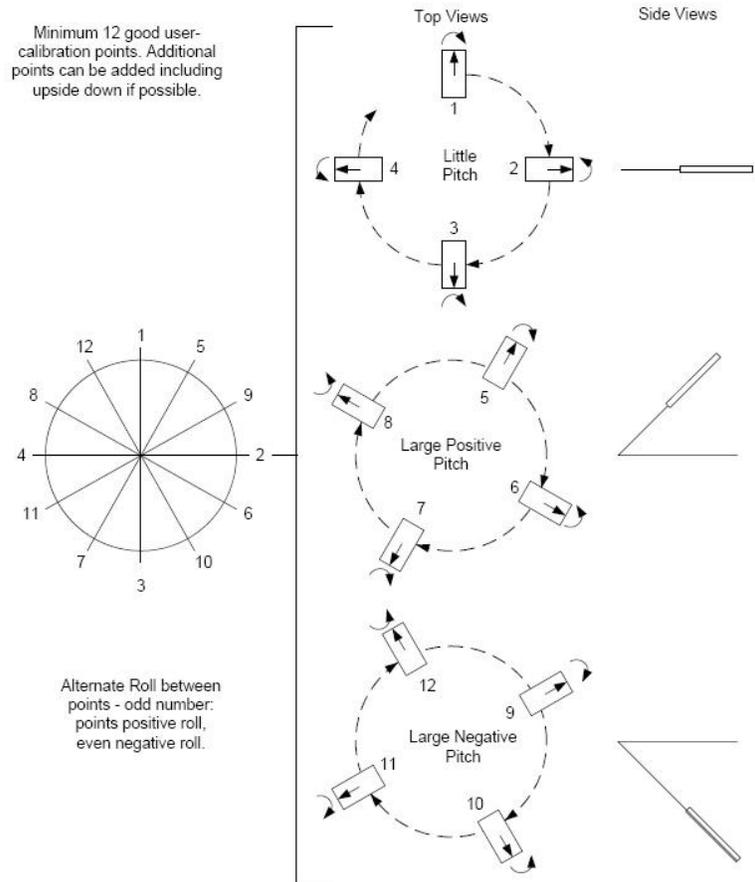

Figure 5-1: 12 Point Full-Range Calibration
A Full-Range Calibration is appropriate when the SeaTRAX can be tilted  $\pm 45^\circ$  or more. This method compensates for hard and soft iron effects in three dimensions, and allows for the highest accuracy readings. The recommended 12 point calibration pattern is a series of 3 circles of evenly spaced points, as illustrated in Figure 5-1 and listed in Table 5-2. The pitch used in the second and third circles of the calibration should at least match the maximum and minimum pitch the device is expected to encounter in use.
**Note:** While Figure 5-1 shows the location of the device changing, this is for illustration purposes and it is best for the location of the device to remain constant while only the orientation is changed.